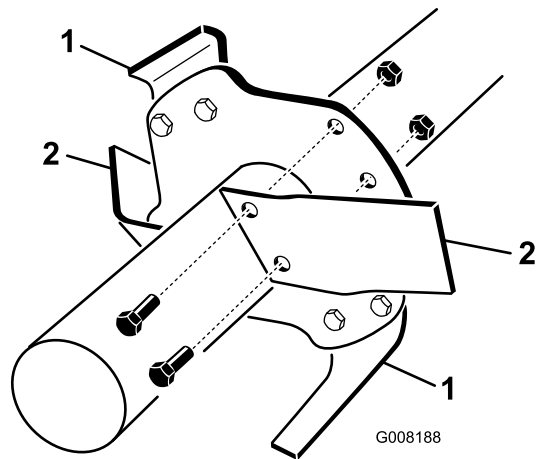

Figure 13
5. Remove old tines one at a time and install the new tines (Figure 13).